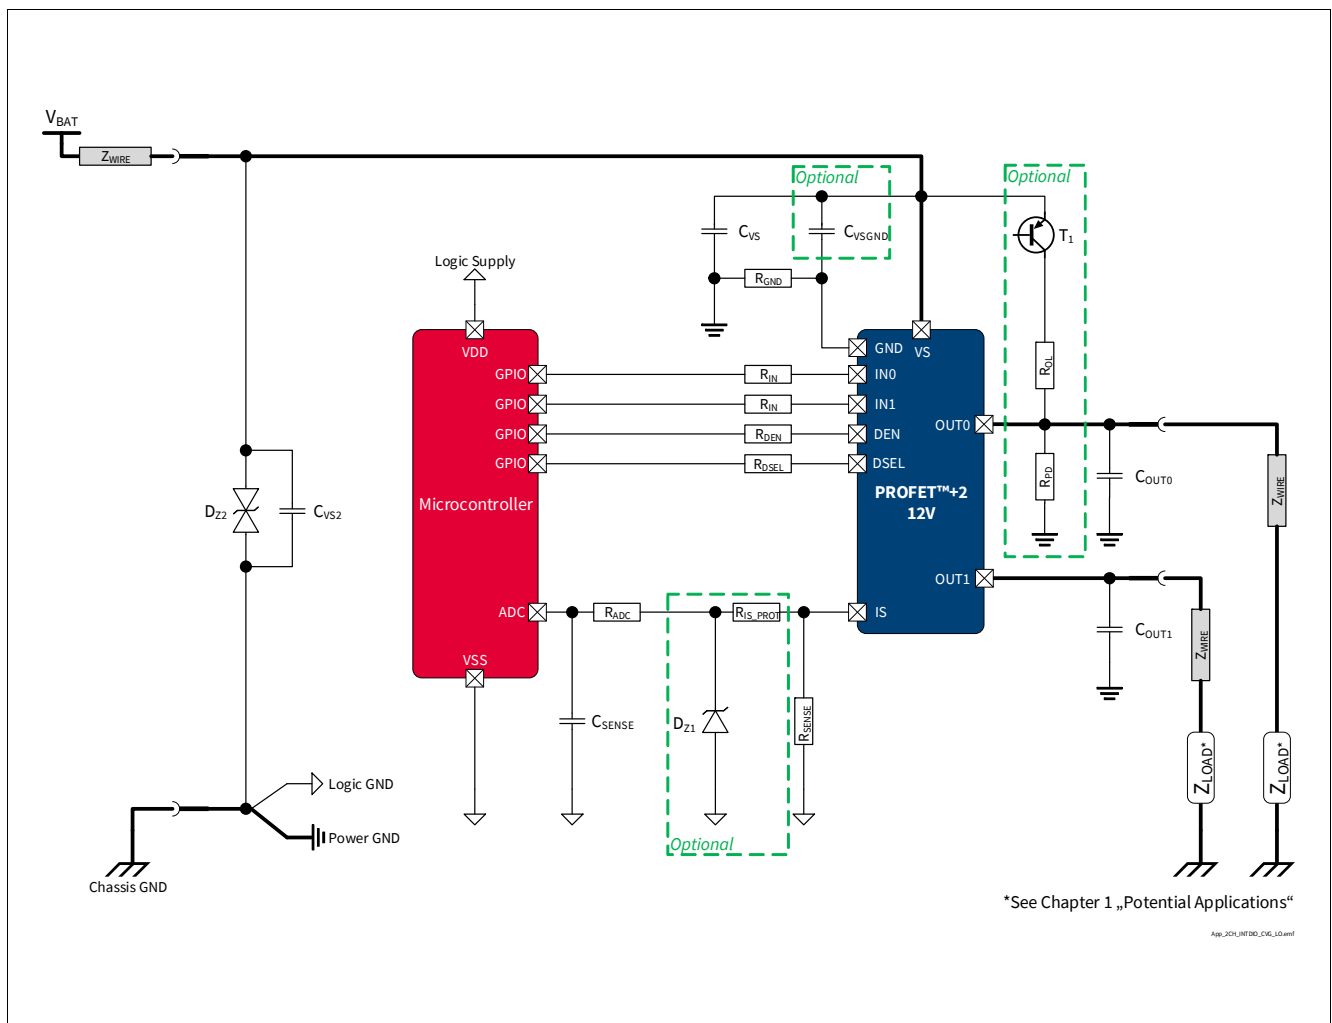

Figure 43 BTS7040-2EPA Application Diagram
1.05 , 2019-10-15	P_8.7.6.1, P_8.7.6.7, P_8.7.6.8 updated (added in Note or Test Condition: link to Figure 25) P_8.7.6.6 updated (added in Note or Test Condition: link to Figure 26) P_7.5.6.4, P_7.5.6.5 updated (added in Note or Test Condition: DEN = “low”; link to Figure 19) P_7.5.6.12 updated (added in Note or Test Condition: see Figure 21 ; deleted unnecessary space in Symbol: dVOUT / dt → dVOUT / dt) P_9.7.6.1 updated (added in Note or Test Condition: See Figure 34) P_9.7.6.6 updated (Min./Typ./Max.: -40%/1800/+40% → -26.0%/1750/+26.0%) P_9.7.6.8 updated (Min./Typ./Max.: -35%/1800/+35% → -23.5%/1750/+23.5%) P_9.7.6.9 updated (Min./Typ./Max.: -30%/1800/+30% → -20.5%/1750/+20.5%) P_9.7.6.12 updated (Min./Typ./Max.: -26%/1800/+26% → -19.0%/1750/+19.0%) P_9.7.6.15 updated (Min./Typ./Max.: -11%/1800/+11% → -9.7%/1805/+9.7%) P_9.7.6.17 updated (Min./Typ./Max.: -6%/1800/+6% → -6.0%/1805/+6.0%) P_9.7.6.19 updated (Min./Typ./Max.: -5%/1800/+5% → -4.5%/1805/+4.5%) P_7.5.6.11 updated (added in Note or Test Condition: see Figure 19) Figure 1 , Figure 43 updated Chapter 1 updated (or LED equivalent → or equivalent electronic loads (e.g. LED modules)) P_4.3.0.7 added Table 24 updated Chapter 5.1 updated (added: see Chapter 10 for the complete application setup overview)